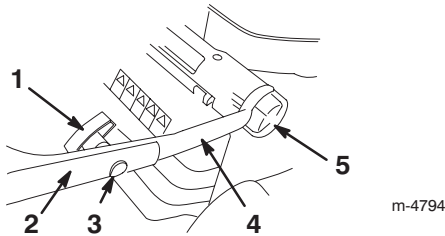

Figure 2
2. Loosen the handle height adjustment knobs and rotate the lower handle toward the rear of the lawn mower until it seats into one of the handle height settings as shown in Figure 2.
4. Install the upper handle section onto the lower handle section with the oval-head bolts and the handle knobs as shown in Figure 2. **Tighten the handle knobs securely.**
You can set the handle to 3 height settings: high, medium, and low (Fig. 2). Select the handle height setting most comfortable for you.